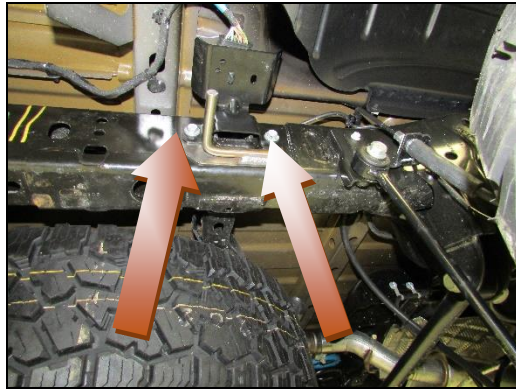

Figure 11
4. Go to the right side, remove (x2) bolts, install the supplied hanger bracket, reuse the OE bolts, and tighten up bracket (**Figure 11**).